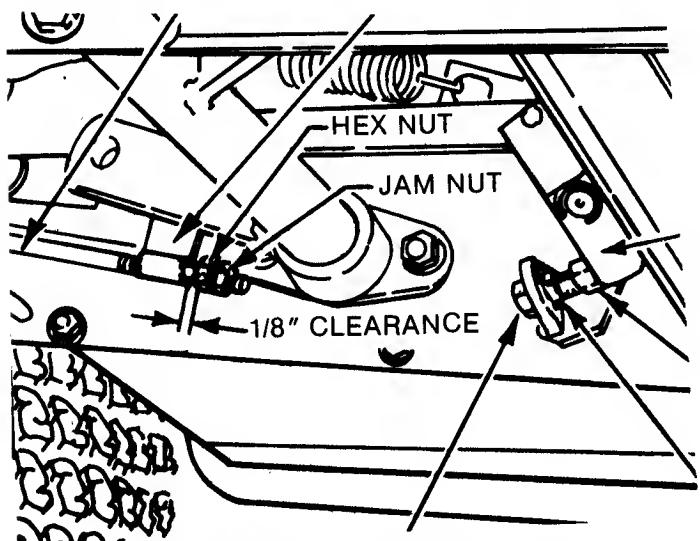

FIG. 4.27-LINKAGE ADJUSTMENT POINTS
- Adjust screw no. 3 Fig. 4.27 to obtain zero clearance between end of screw and selector link, then tighten lock nut.
2. Loosen nut no. 2 Fig. 4.27 at end of brake rod.